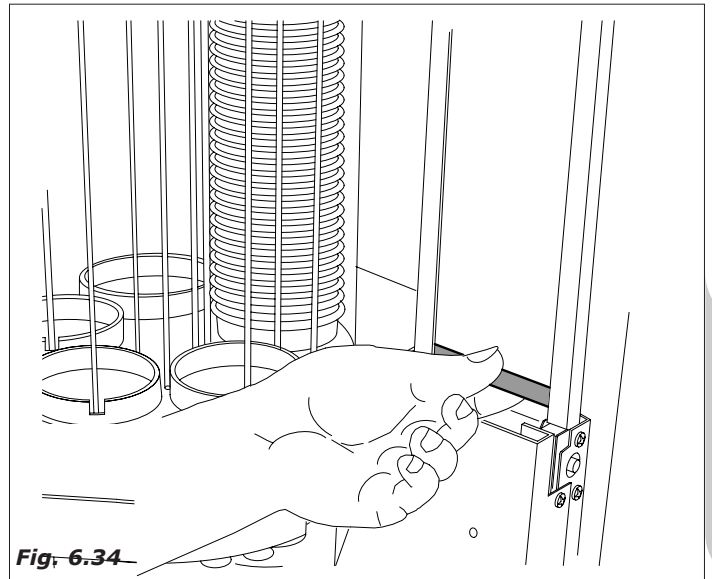

Fig. 6.34
- Remove the metal weight from the spoon dispensing column (Fig. 6.34)